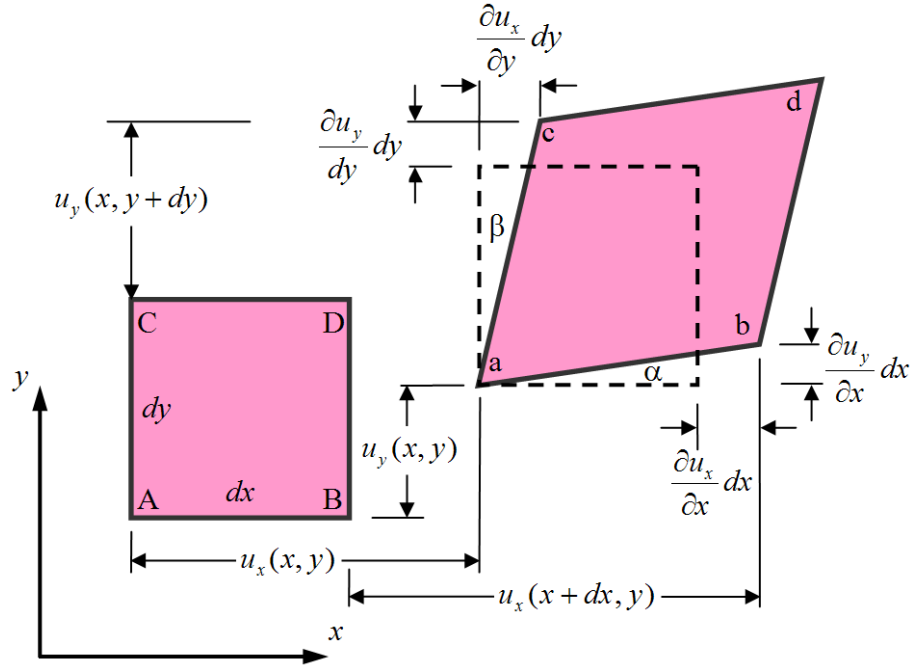

Figure 4: An infinitesimal small deformed rectangle
The relation (4) is a purely geometric one. Consider an infinitesimal small square of size dx and dy , and its deformed geometry as depicted in figure 4. The strain is defined as the stretching of the element, i.e. $\varepsilon_{xx} = \frac{\text{length}(ab) - \text{length}(AB)}{\text{length}(AB)}$. The complete derivations of these quantities is described well in the Wikipedia article on strain, and the result is the following relations